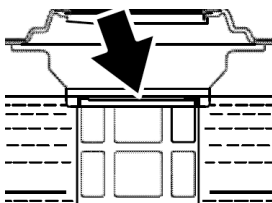

Figure 5: Maximum Gasoline Fill Level
20. Slowly add gasoline into the fuel tank. Be very careful not to overfill the tank. The gasoline level should NOT be higher than the red ring (see Figure 5).